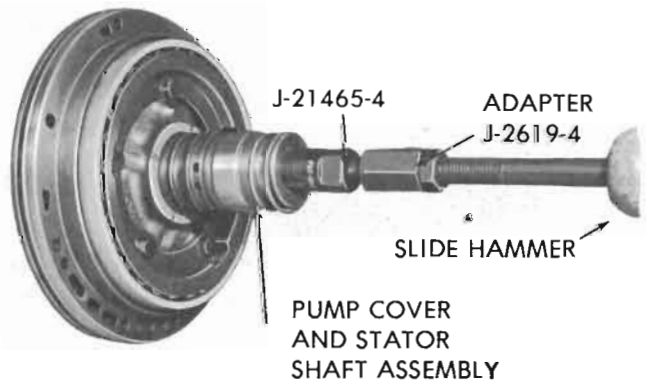

Figure 75-146
14. If replacement of lower rear stator shaft bushing is required, proceed as follows: Thread Tool J-21465-15 into stator shaft lower rear bushing. Thread Slide Hammer J-2619 into remover. CLAMP slide hammer into vise. Grasp stator shaft and remove bushing. See Figure 75-146. If upper rear stator shaft bushing is required, repeat above procedure.